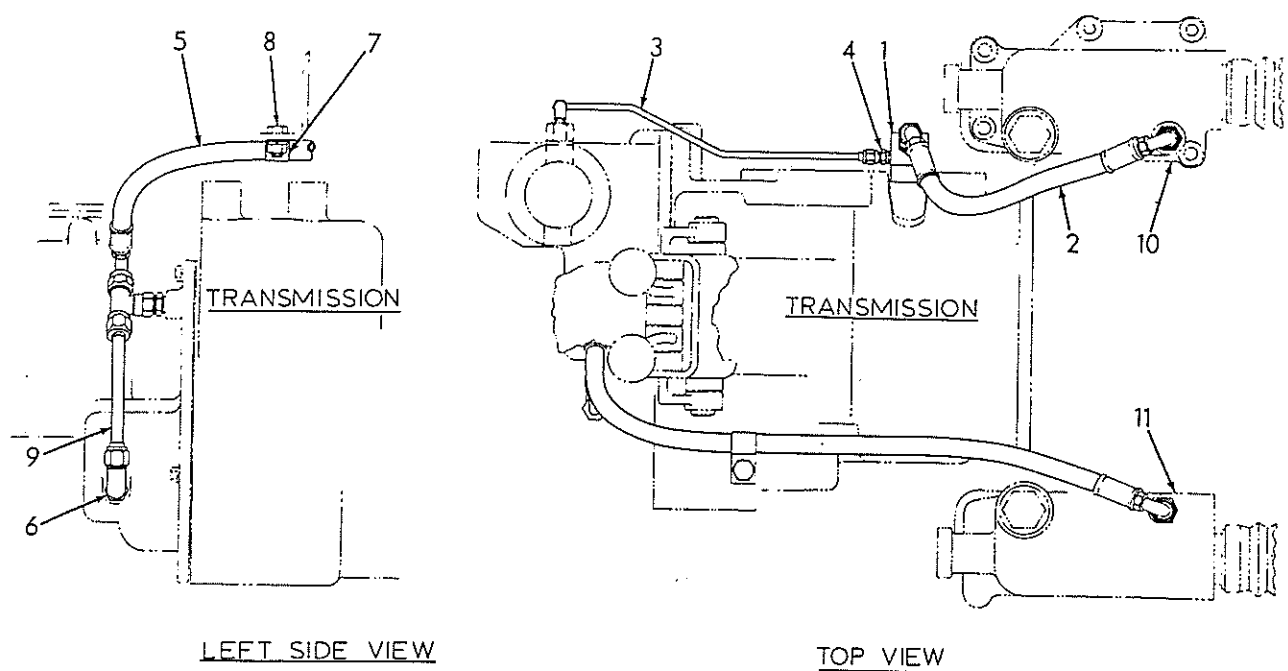

Fig. 5 Transmission Lubricating Oil Lines
Pressure lubrication to transmission components and shift lever housing is supplied by steering clutch and brake hydraulic system through oil lines from brake valves (Fig. 5). Oil entering tee (1) is directed to shift lever housing; oil also flows through tee to spray lubricate transmission components.
7. Disconnect lubricating oil lines, Fig. 5 (2) (5) from transmission case; remove hose supporting clip (7) and lay hoses aside for clearance.
- If pinion shaft rear bearing is to be replaced, unlock and remove bearing retaining nut Fig. 5. Use hydraulic press and suitable puller tools to remove bearing from shaft.